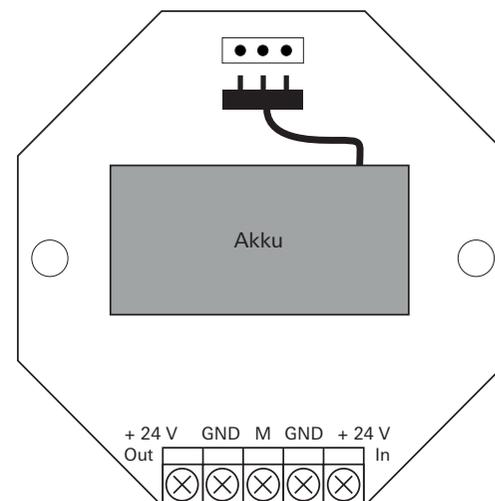

Fig. 1: Connections
1. Connect input voltage + **24 V In** (see Fig. 1).
2. Connect battery with the UPS PCB (see Fig. 1).
3. Connect system devices to the + **24 V Out** connection terminal (see Fig. 1).
4. If required, wire the signal contact (**M**) (see Fig. 1).